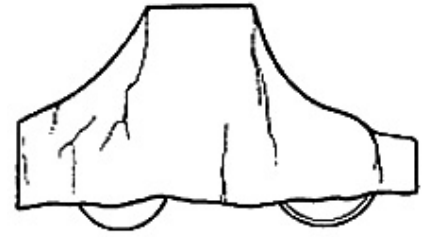

Figure 4-9
- If it is necessary to store the machine outdoors, park it on a concrete floor in a location free from hazardous substances like corrosive gases, cover it with a tarpaulin and tie it down well (figure 4-9).